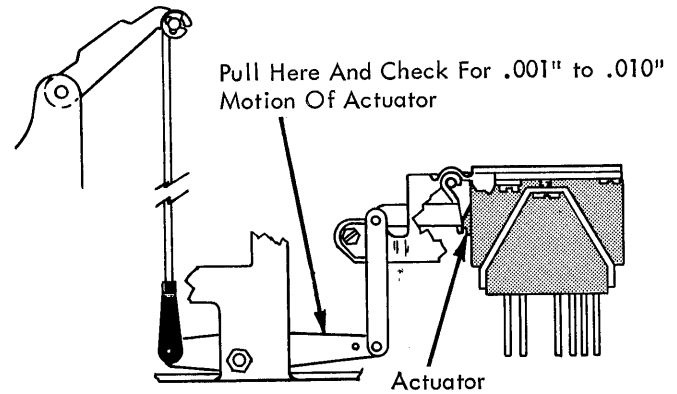

FIGURE 181.1 Operational Link
1. Operational Link (Fig. 181.1) - Adjust the links (with the cams latched at rest) so that the contact actuators will have .001" to .010" travel before bottoming. This can be checked by pulling on the actuating arm and observing .001" to .010" motion of the actuator as shown in figure 181.1.